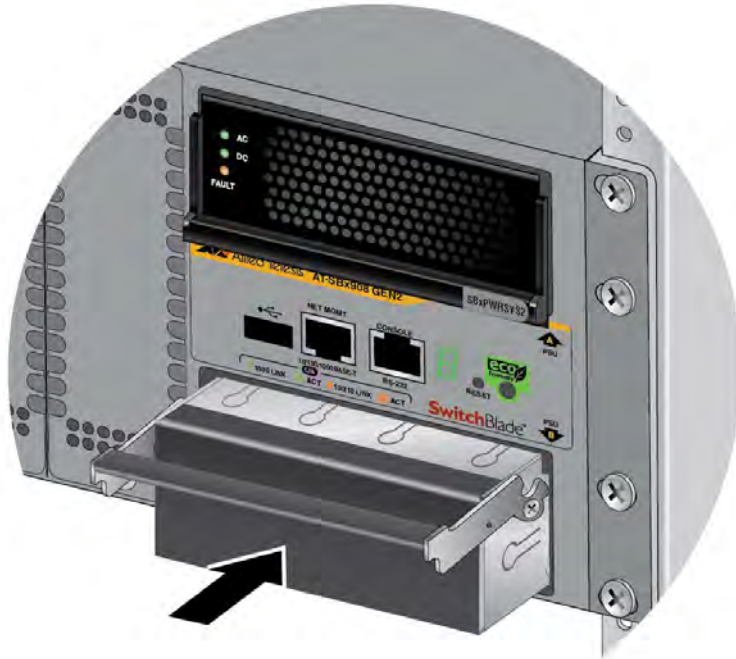

Figure 39. Aligning the Power Supply Slot Panel
2. Align the panel in the empty power supply slot and carefully slide it into the empty power supply slot. Figure 39 on page 78 shows the panel being installed in the PSU B power supply slot.